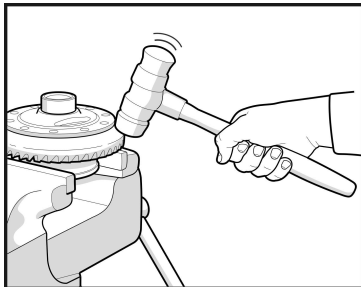

Fig. 12
1.15 Using a hammer with a plastic, rubber, or copper head, carefully tap the ring gear to separate it from the differential carrier. To prevent the ring gear from binding, tap evenly around the circumference. (Fig. 12)